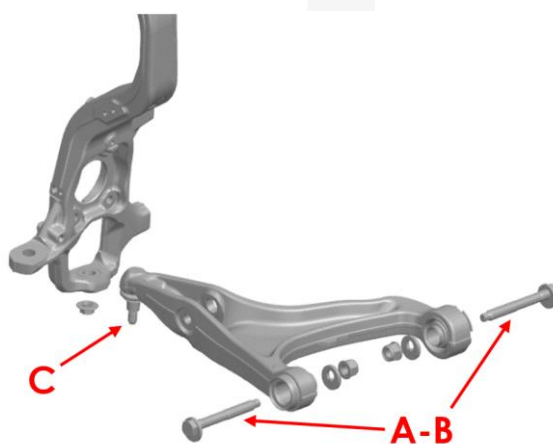

Fig. 1
- Re-install the two bushings fasteners (A and B in fig.1) of the arm to the chassis and the ball joint head (C in fig.1):